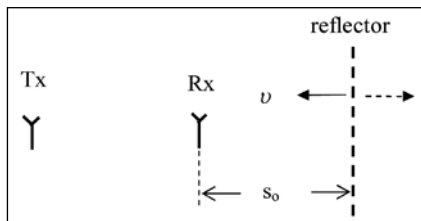

Fig 2–Mobility scenario II – fixed receiver and transmitter, and moving reflector.
For the sake of illustration, we evaluate the underlying Doppler to code-phase conversion using the total measured delay of the reflected component with respect to the LoS, a part of which is the group delay in equation 2. The simplified scenarios are shown in Fig. 1 and Fig. 2, with s_0 the separation at $t = 0$. To relate these to the model in (3), here $m=1$, and transmitter is assumed to be fixed.